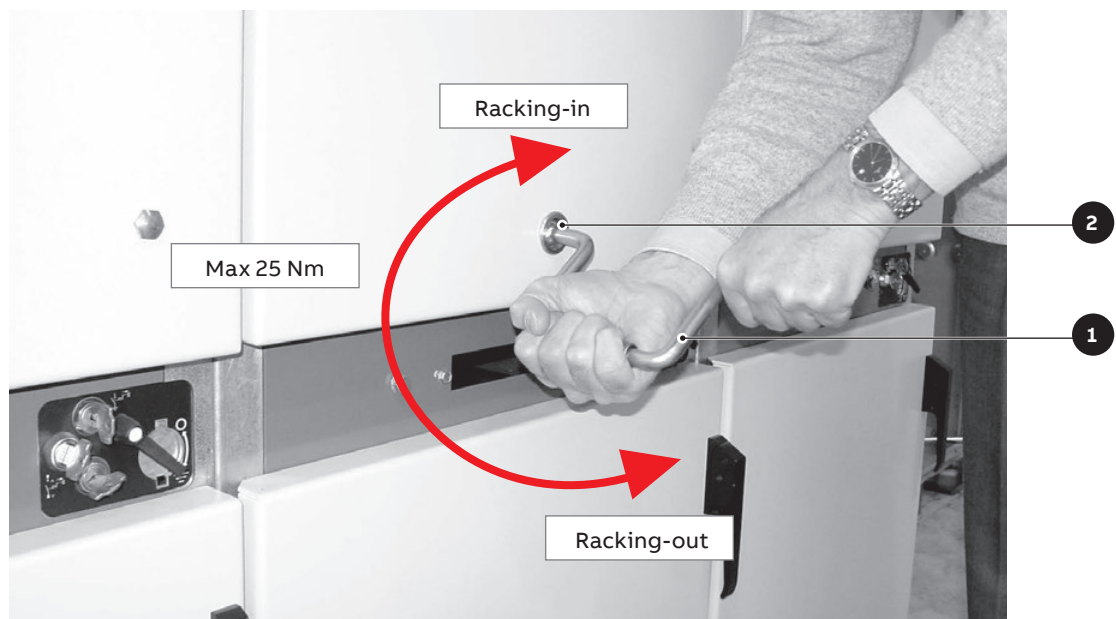

Fig. 9
For racking-in/racking-out of the switchgear, fully insert the lever (1) (fig. 9) in the appropriate seat (2) and work it clockwise for racking-in, and anticlockwise for racking-out, until the limit switch positions are reached.
- Insert the manual racking-in lever (1) in the special coupling (2) Fig. 9, and take the motorized truck to about half its run between the isolated for test and the connected position. The torque needed to carry out truck handling is < 25 Nm
- Remove the manual lever (1) from the coupling (2) Fig. 9